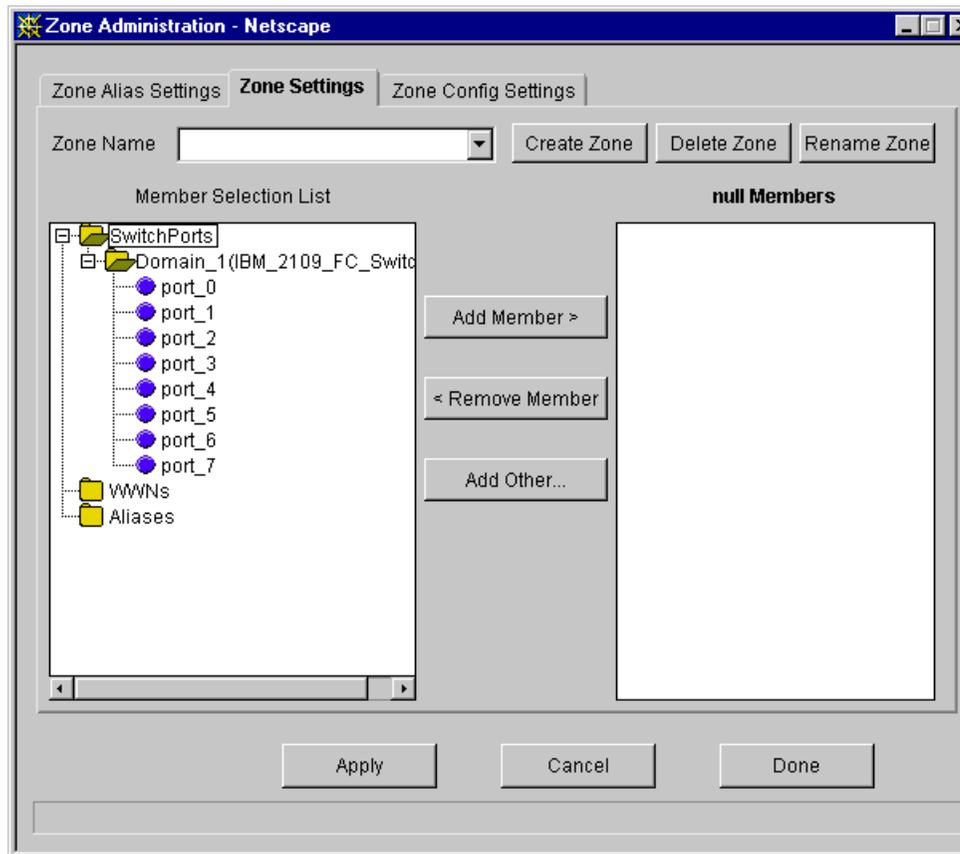

Figure 135. Zone settings view
3. We selected Zone Settings by clicking the middle tab. We were presented with the view shown in Figure 135.